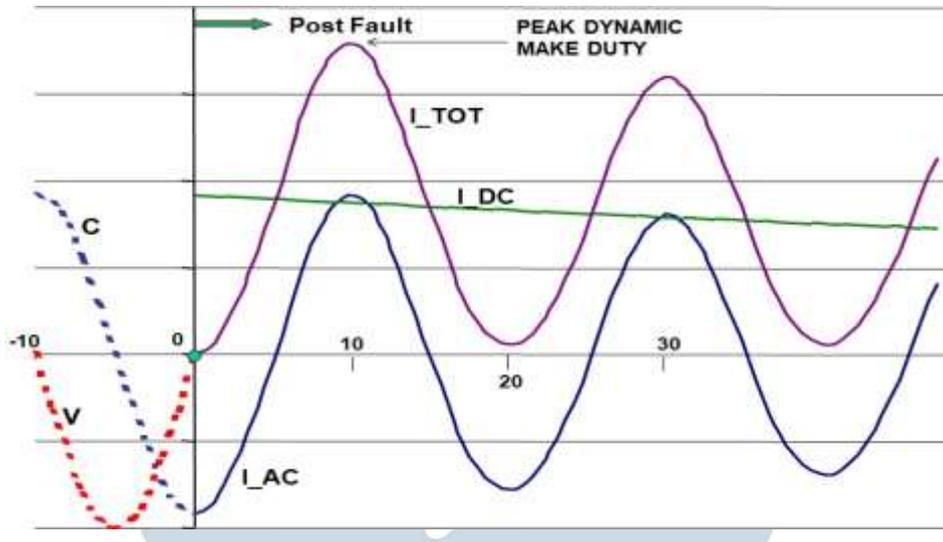

Figure 2
3.0 The expanded view for the first few cycles is shown in Fig 2. At approximately 10 msec (half cycle) after fault inception, the total fault current I_{TOT} is maximum. The Circuit Breaker must be able to dynamically withstand this current and is called Make Duty of Circuit Breaker.